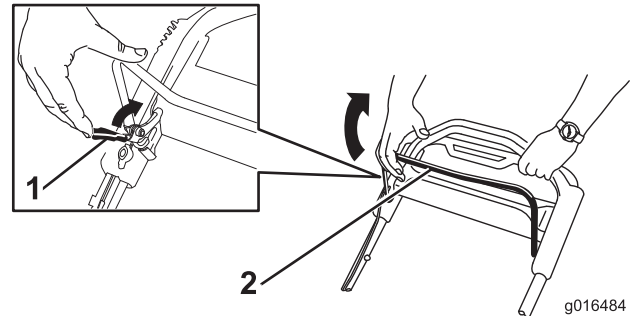

Figure 23
1. Pull the blade-control-bar lock back to the blade-control bar (Figure 23).
2. **Slowly** pull the blade-control bar back to the handle (Figure 23).